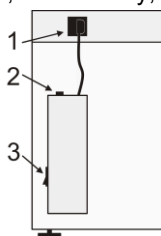

Figure 13.
8.2.2. Fuse for the mains outlets (for models with built-in mains outlets). Disconnect the unit from the electric circuit. Open the fuse holder by screwing off the holder lid (fig. 13/2 or 14/FU1). Check the fuse and replace, if necessary, see **6.3**.